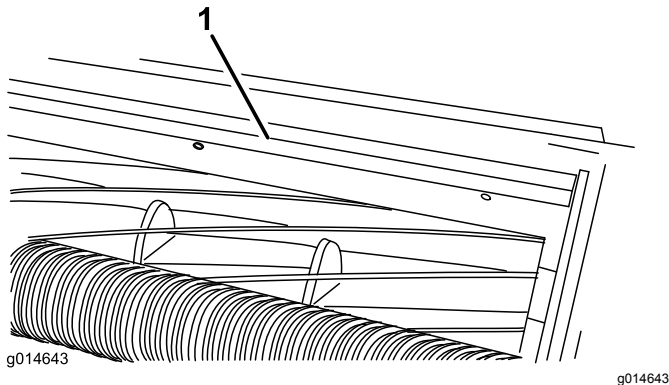

Figure 17
1. Loosen the bolts securing the top bar (Figure 17) to the cutting unit.